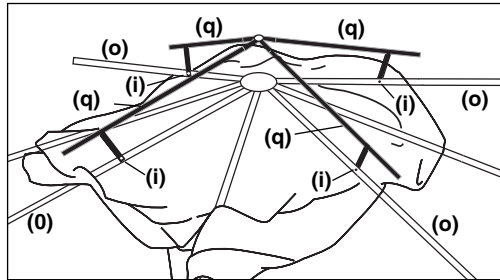

Fig. 5
- Using 1" screws and nuts (i), attach vertical T's on vent poles (q) to long canopy poles (o). Make sure to attach all T's to the same side of the canopy poles (eg. All on right side or all on left side). (Fig. 5)